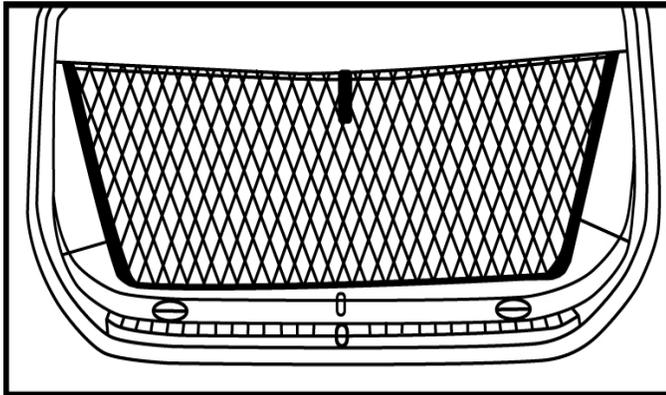

Fig. 2-2
- (c) Completed assembly as shown (Fig. 2-2).